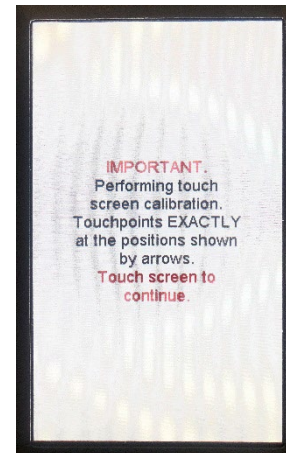

Figure 2
3. Follow the prompts on the screen by touching the arrows with a pointed object like a stylus or pencil. Do not use a sharp pointed object in order to avoid damage to the display (See Figure 2).